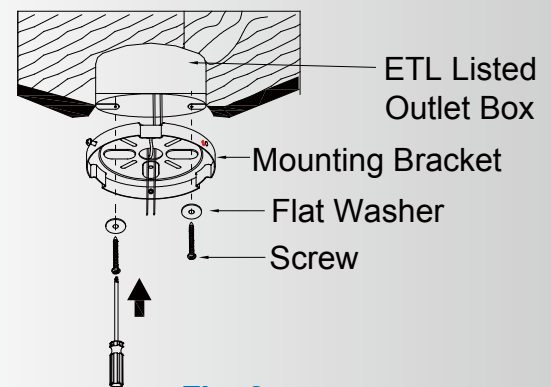

Fig. 6
Step 2. Pass the 120 Volt supply wires from the ceiling outlet box through the center of the mounting bracket. Securely attach the ceiling bracket to the ceiling junction box as shown. (Fig. 6)